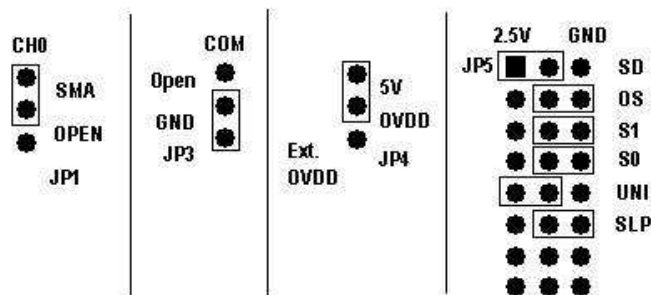

Figure 2. DC1186A Jumpers
- Make sure that the jumpers are set as shown in Figure 2. If bipolar mode is desired, it will be necessary to change the PScope user configure setting.